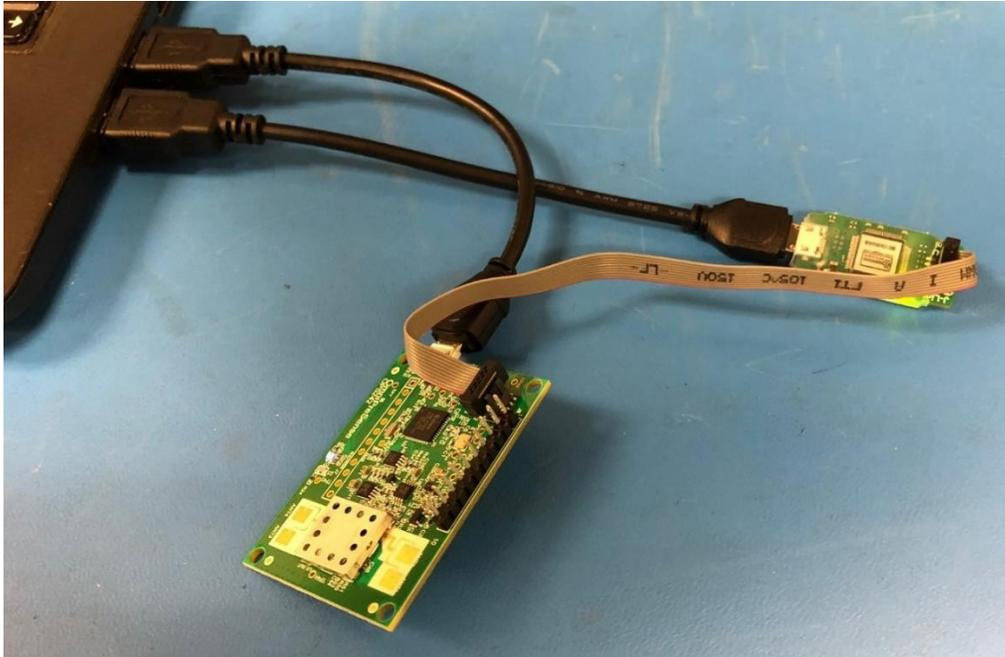

Figure 5. USB and JTAG Connections to PC
Step 3. Plug in the USB connector of the JTAG programmer into a USB port on the PC. If the ribbon cable that came with the Segger programmer was not plugged in, connect it. The connector on the programmer is not keyed. On some Seggers, the connector on the cable should be mounted so that the cable goes away from the programmer board as show in (Figure 5). On other boards, the cable may need to point in the other direction. When the sensor is connected to the XMCFasher tool, if the Unique Chip ID does not populate (Step 7), rotate the connector on the Segger by 180° and hit the Connect button again. Plug in a USB micro cable into the OPS241/OPS242/OPS243 and the other end into another USB port on the PC. This provides power to the OPS241/OPS242/OPS243 during the program update.